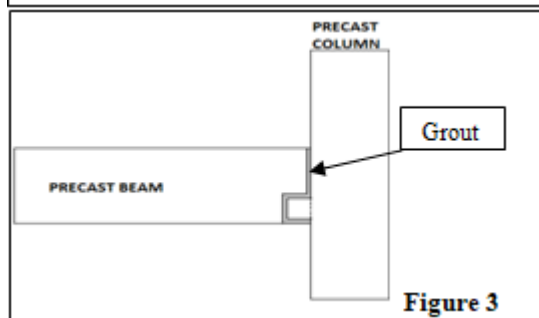

Figure 3
- b) **Wet Joints:** Joint requires not only casting with cement but also concreting and grouting material, figure. 3 shows the wet joint.